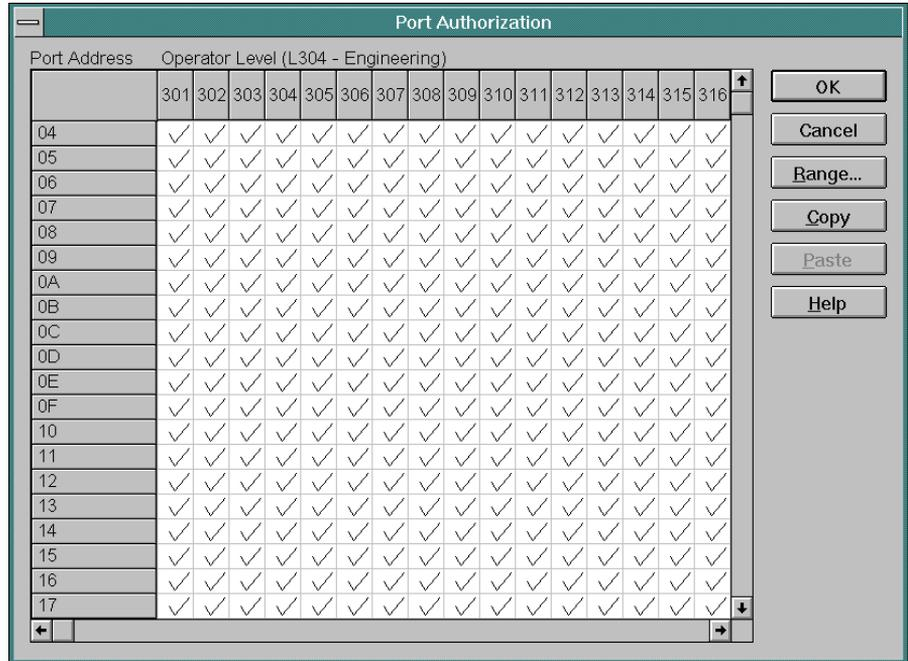

Figure 182. Port Authorization Dialog Box (Unmodified)
- Select the *Port Authorization* option from the *Utility* menu. The *Port Authorization* dialog box appears (Figure 182).